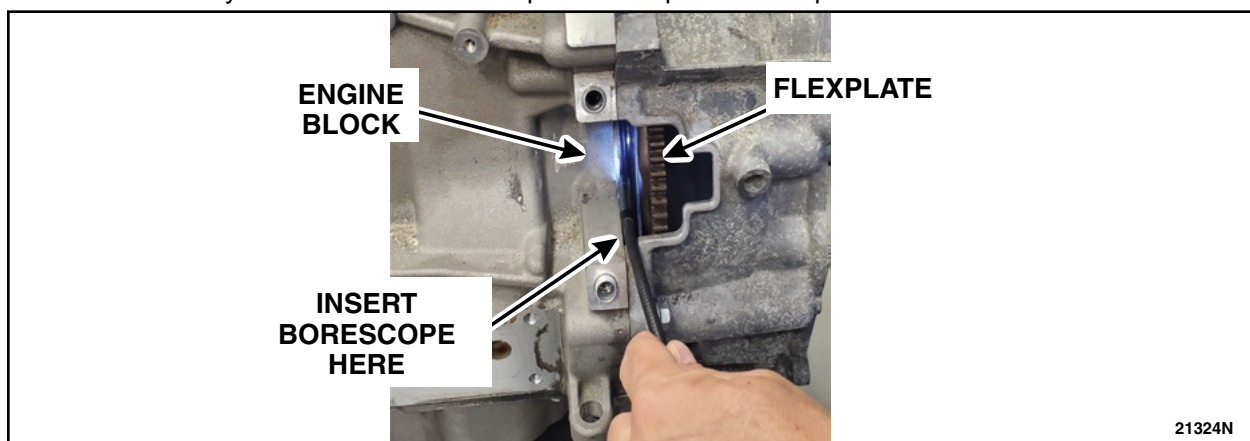

FIGURE 2
7. Placing a borescope between the engine block and flexplate, inspect the flexplate for cracks near the crankshaft. Are there any cracks present in the flexplate? See Figures 2 through 5.